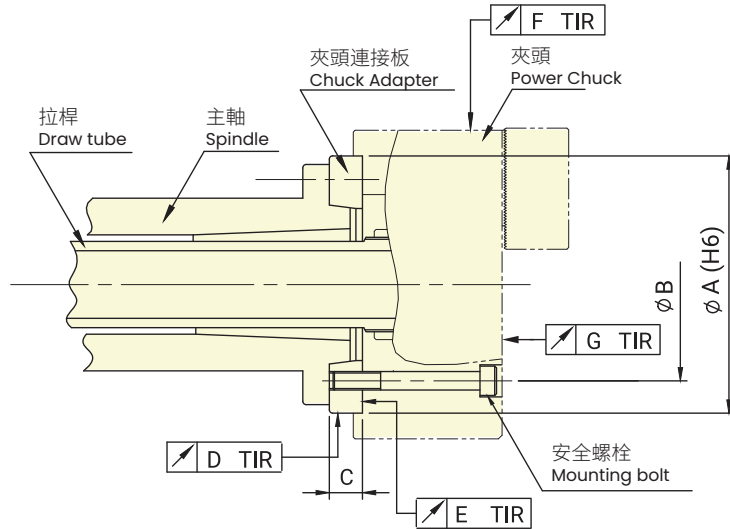

Fig.8
- Fig.8為JIS短錐度主軸圖。
- Fig.8 shows JIS short tapered spindle.